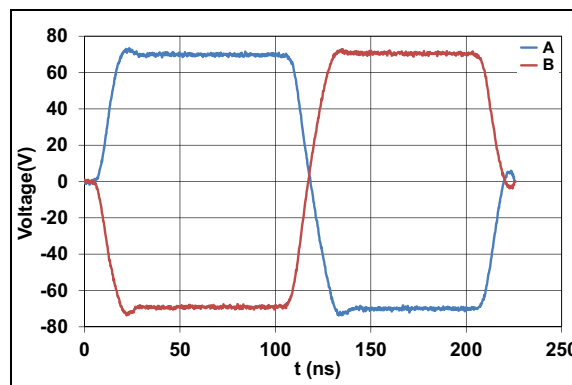
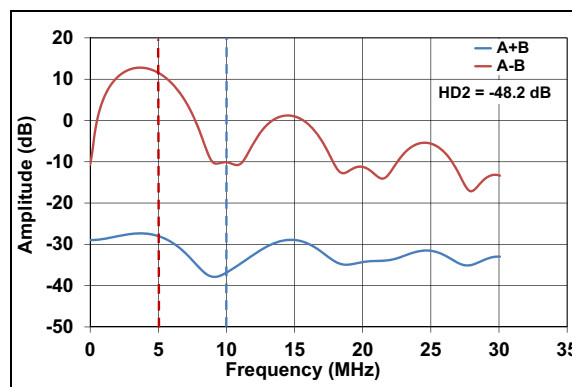

FIGURE 3: HV7321 TX Output Waveform, 1-Cycle, 5 MHz with 220 pF//1 kΩ Load.
FIGURE 4: HV7321 TX Output Spectrum, 1-Cycle, 5 MHz with 220 pF//1 kΩ Load.
Figure 3 shows the measurement of one cycle of $\pm 70V$ 5 MHz signal (A) and its inversion (B) from channel-0 of the HV7321. Figure 4 shows the frequency spectrum of A-B and A+B. HD2 is measured as -48.2 dB.